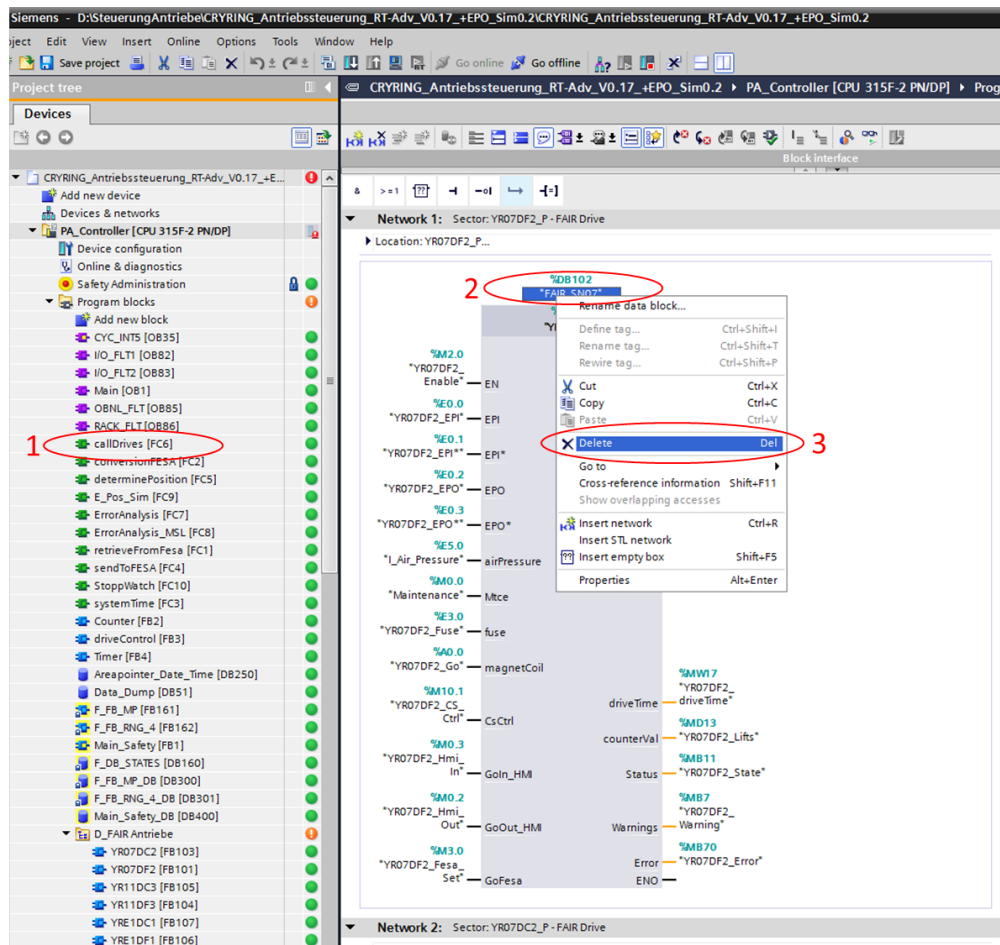

Figure 4: Delete instance DB
7. Right click → delete (Figure 4).